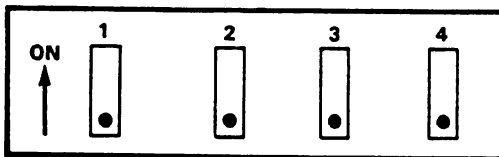

Figure D-3 Device Address /00
- a. To set the address at /00 -- Place all switches in the OFF position. Refer to Figure D-3. An address of /00 indicates the primary terminal processor, which controls Terminals 1-4.